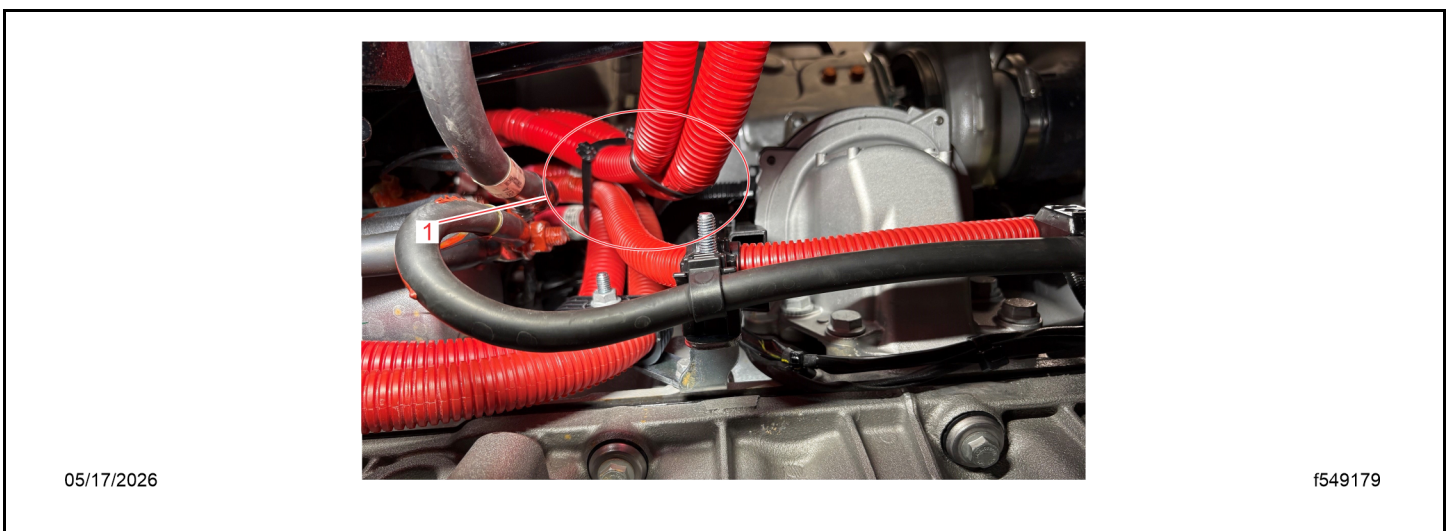

Fig 161, Securing the Cables
25. Route the auxiliary BCA cable next to the other heavy positive cable(s) from the starter to the lower frame rail support bracket. See Fig. Fig. 161.